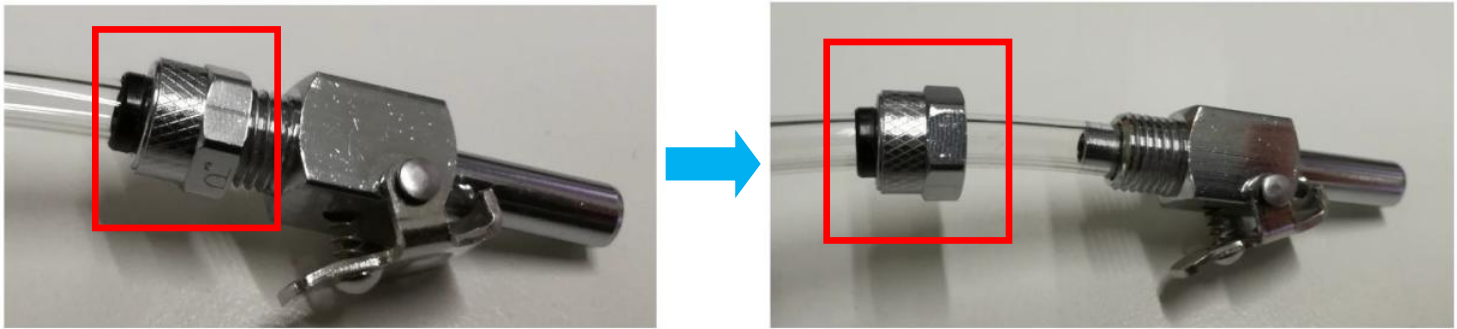

Figure 10
12. Gently loosen the nut and slide through existing tubing. May refer to below Figure 10.